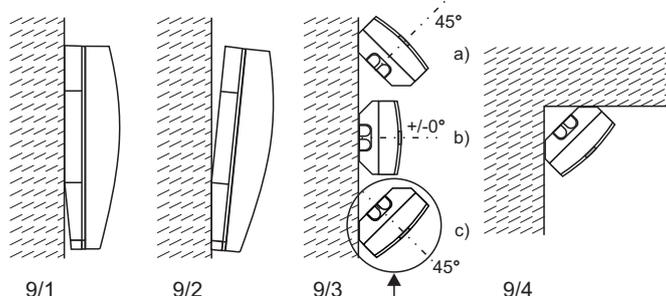

Fig. 9 Backtamper here not possible
Mounting as per Fig. 9/2
7.3 Mounting possibilities (Fig. 9 and 10)
- 0° Vertical at a 0° downward angle (Fig. 9/1)
- 3° Vertical at a 3° downward angle (Fig. 9/2)
- 45° Horizontal at a 45° angle to the left or right (Fig. 9/3)
- Corner mounting (Fig. 9/4)
Should the mounting possibilities in accordance with Fig. 9 not suffice, the detector can be mounted on the "Adjustable joint".
The method of attachment of the housing base depends on installation according to Fig. 9:
- **0° Vertical** (Fig. 9/1)
- **3° Vertical** (Fig. 9/2)
- **45° Horizontal to the left or right** (Fig. 9/3)
- To the right: Remove "Protective cover ⑤ for back-tamper" (on the rear)
- To the left: Screw on 2 positions ④ .
- **Corner mounting** (Fig. 9/4)
Please note, that the backtamper is not possible when mounting according to Fig. 9/3c.